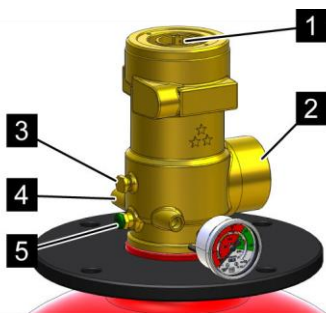

Fig. 147: Valve
Check the anti-recoil cap (Fig. 147/2) and blind plug on the control outlet (Fig. 147/3) and replace if damaged.
8. ➔ Check bursting disk (Fig. 147/5) for correct pressure range and condition.
9. ➔ Remove all external activating elements and the cap on the control connection (Fig. 147/1) of the valve.
11. ➤ Connect the filling adapter with the filling mechanism connected to the valve outlet (Fig. 147/2).